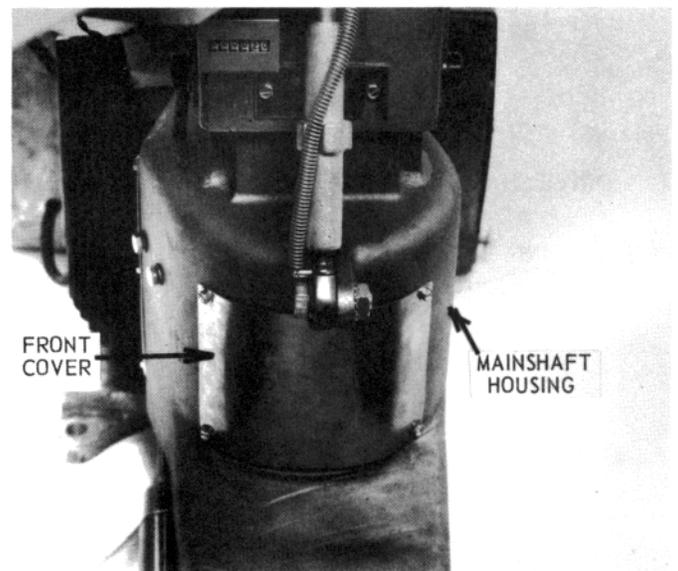
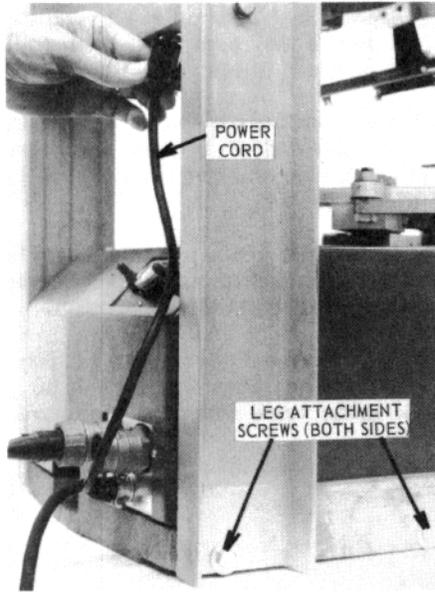
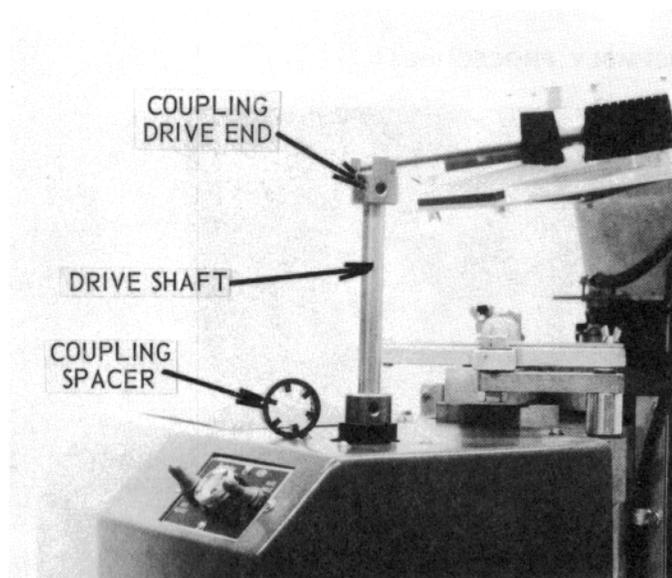

Figure 27 – Mainshaft Housing
Figure 28 – Magazine Attachment
Figure 29 – Drive Shaft and Couplings
- 1.1 The mainshaft clutch, mainshaft assembly, mainshaft gear, and associated parts are located in the mainshaft housing (see Figure 27).
- 1.2.2 Remove front cover (see Figure 27). Detach the power cord at the magazine gearbox by turning it counterclockwise and pulling it out (see Figure 28).
- 1.2.3 Loosen the four screws that hold the magazine support legs to the base (see Figure 28). Pull up on both legs and remove the magazine assembly. Be careful not to lose the drive shaft or the two molded rubber coupling spacers that fit in the coupling ends (see Figure 29).
- 1.2.4 Remove front cover (see Figure 27).